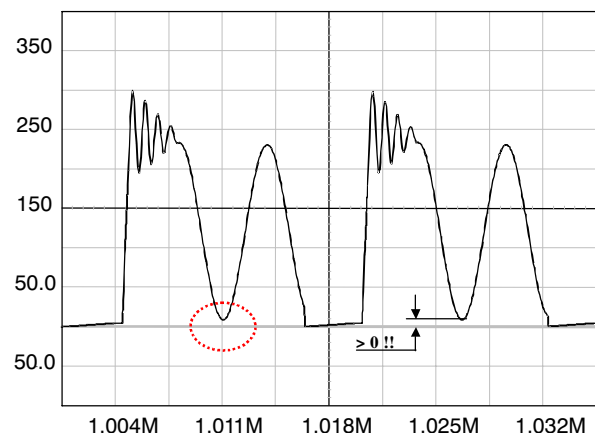

Figure 45. The reflected voltage shall always be greater than the minimum input voltage to avoid the forward biasing of the MOSFET body-diode.
- The lateral MOSFET body-diode shall never be forward biased, either during startup (because of a large leakage inductance) or in normal operation as shown by Figure 45. This condition sets the maximum voltage that can be reflected during t_{off} .